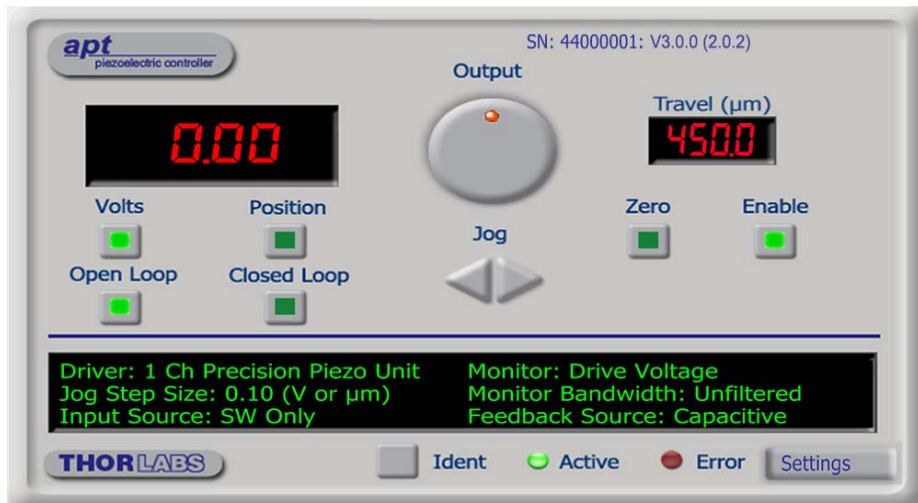

Fig. 4.1 Piezo Controller Software GUI .
- 2) Run the APT User program - Start/All Programs/Thorlabs/APT User/APT User. The APT server registers automatically the units connected on the USB bus and displays the associated GUI panels as shown in Fig. 4.1.
- 3) Notice how the total travel range for the associated piezo is displayed in the 'Travel' window - see Fig. 4.1.